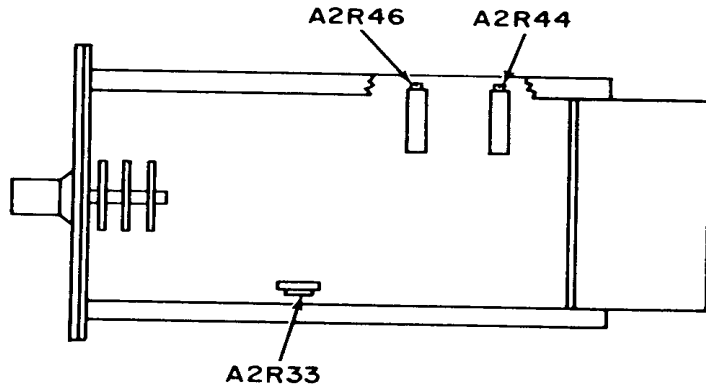

Figure 5. High gain auto range unit - top view.
- m.** If required, adjust A2R33 (fig. 5) to obtain an indication of 000.0 on voltmeter.
- (1) Press and hold INT CHECK 8000 pushbutton and adjust INT CHECK 8000 adjustment to obtain an indication of 8000 on voltmeter (A14). Release pushbutton.
- (2) Set RANGE switch to 1000 MV.
- (3) Adjust dc voltage standard or electrical test set for an output of +800.0 mV.
- (4) Adjust A2R46 (fig. 5) until voltmeter (A14) indicates +800.0 (R).
- (5) Reverse dc voltage standard or electrical test set output polarity.
- (6) If voltmeter (A14) does not indicate between -799.1 and -800.9, readjust A2R46 to compensate for error between positive and negative indications.
- (7) Adjust dc voltage standard or electrical test set output to zero.
- (8) Set RANGE switch to 100 MV.
- (9) Short voltmeter (A14) INPUT, using lead (B3).
- (10) If voltmeter (A14) does not indicate 000.0 readjust A2R33 (fig. 5) until voltmeter indicates 000.0.
- (11) Remove short placed in (9) above.
- (12) Adjust dc voltage standard or electrical test set for an output of -80.00 mV.
- (13) Adjust A2R44 (fig. 5) until voltmeter (A14) indicates -80.00 (R).
- (14) Reverse dc voltage standard or electrical test set output polarity
- (15) Repeat **a**(1) through (4) above.